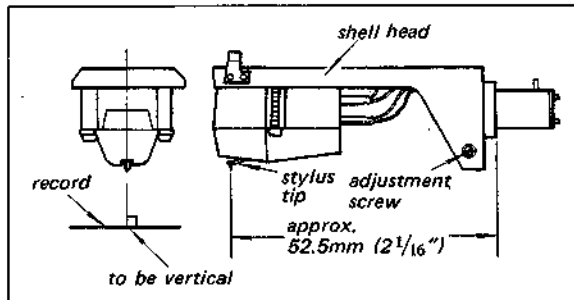

Fig. 2-16. Shell head position adjustment
5. Loosen the adjustment screw with a screwdriver as shown in Fig. 2-16.
6. Slide the shell head so that the distance between the stylus tip and the neck of the shell head is 52.5 mm (2¹/₁₆") as shown in Fig. 2-16.